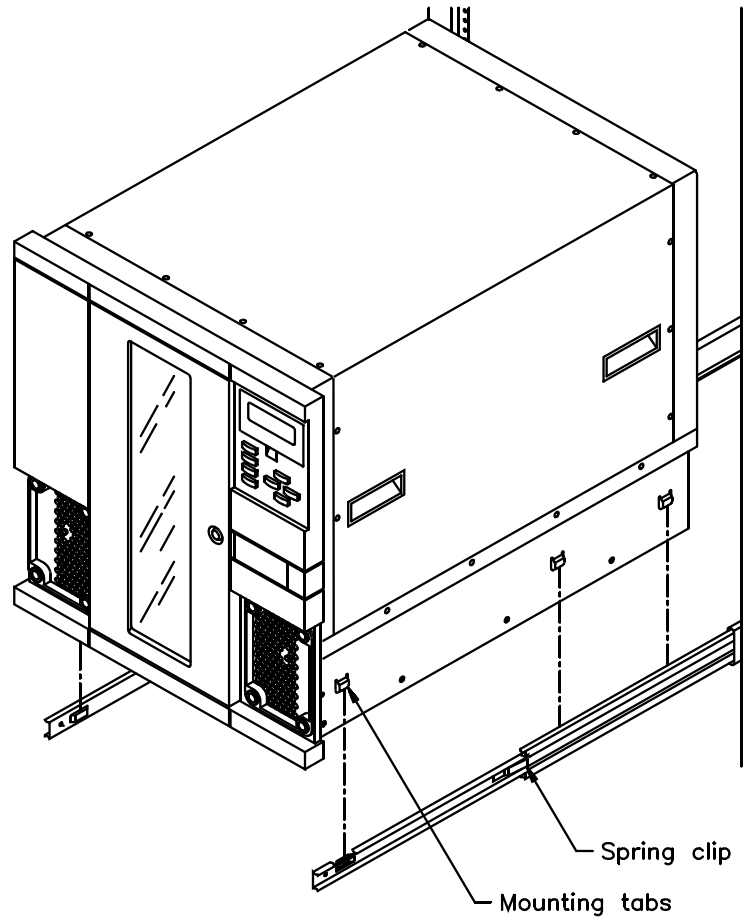

Figure 7-3 Lifting the library from the rack
6. Making sure the library is supported so that the rack will not tip, slide the library forward until the rails stop at the spring clips (see Figure 7-3).